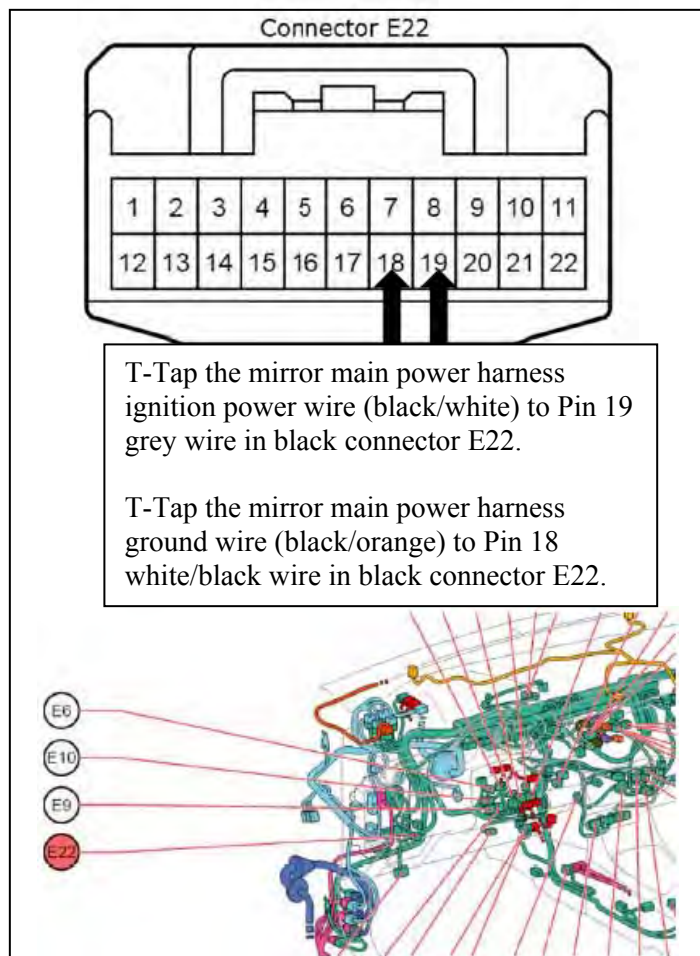
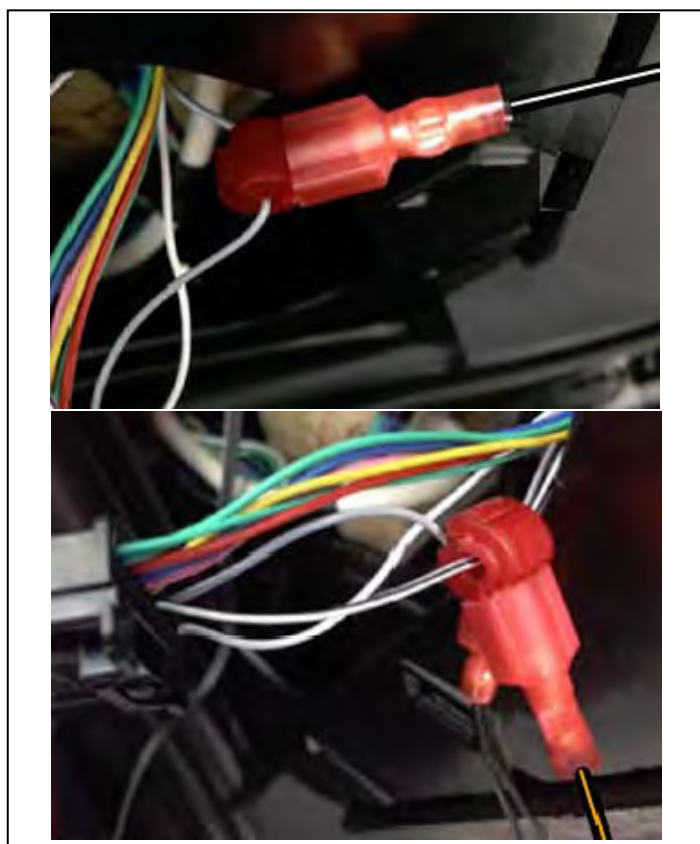

Figure 18a
Figure 18b
18. Locate vehicle connector E22 outer remote mirror switch. Disconnect connector. T-Tap the mirror main power harness ignition power wire (black/white) to Pin 19 grey wire in black connector E22. T-Tap the mirror main power harness ground wire (black/orange) to Pin 18 white/black wire in black connector E22. See figure 18a and figure 18b.